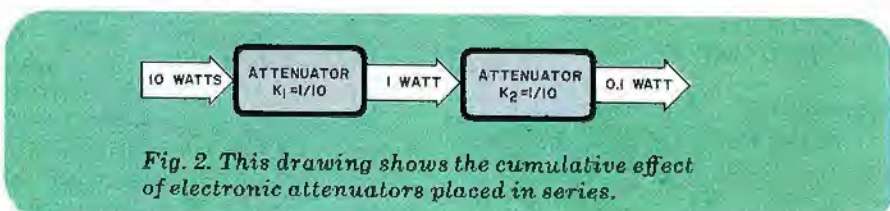

Fig. 2. This drawing shows the cumulative effect of electronic attenuators placed in series.
the attenuator, P_O , is related to the input power P_I by the equation $P_O = (K) (P_I)$ with $K = 1/10$; where K is a ratio called the gain factor. Of course, it is possible to cascade two or more such networks to obtain a cumulative effect, as shown in Fig. 2. Here two attenuating networks are used. Their total effect is identical to that produced by a single attenuator with a gain factor of $1/100$: $P_O = (1/10) (1/10) (P_I) = (1/100) (P_I)$.